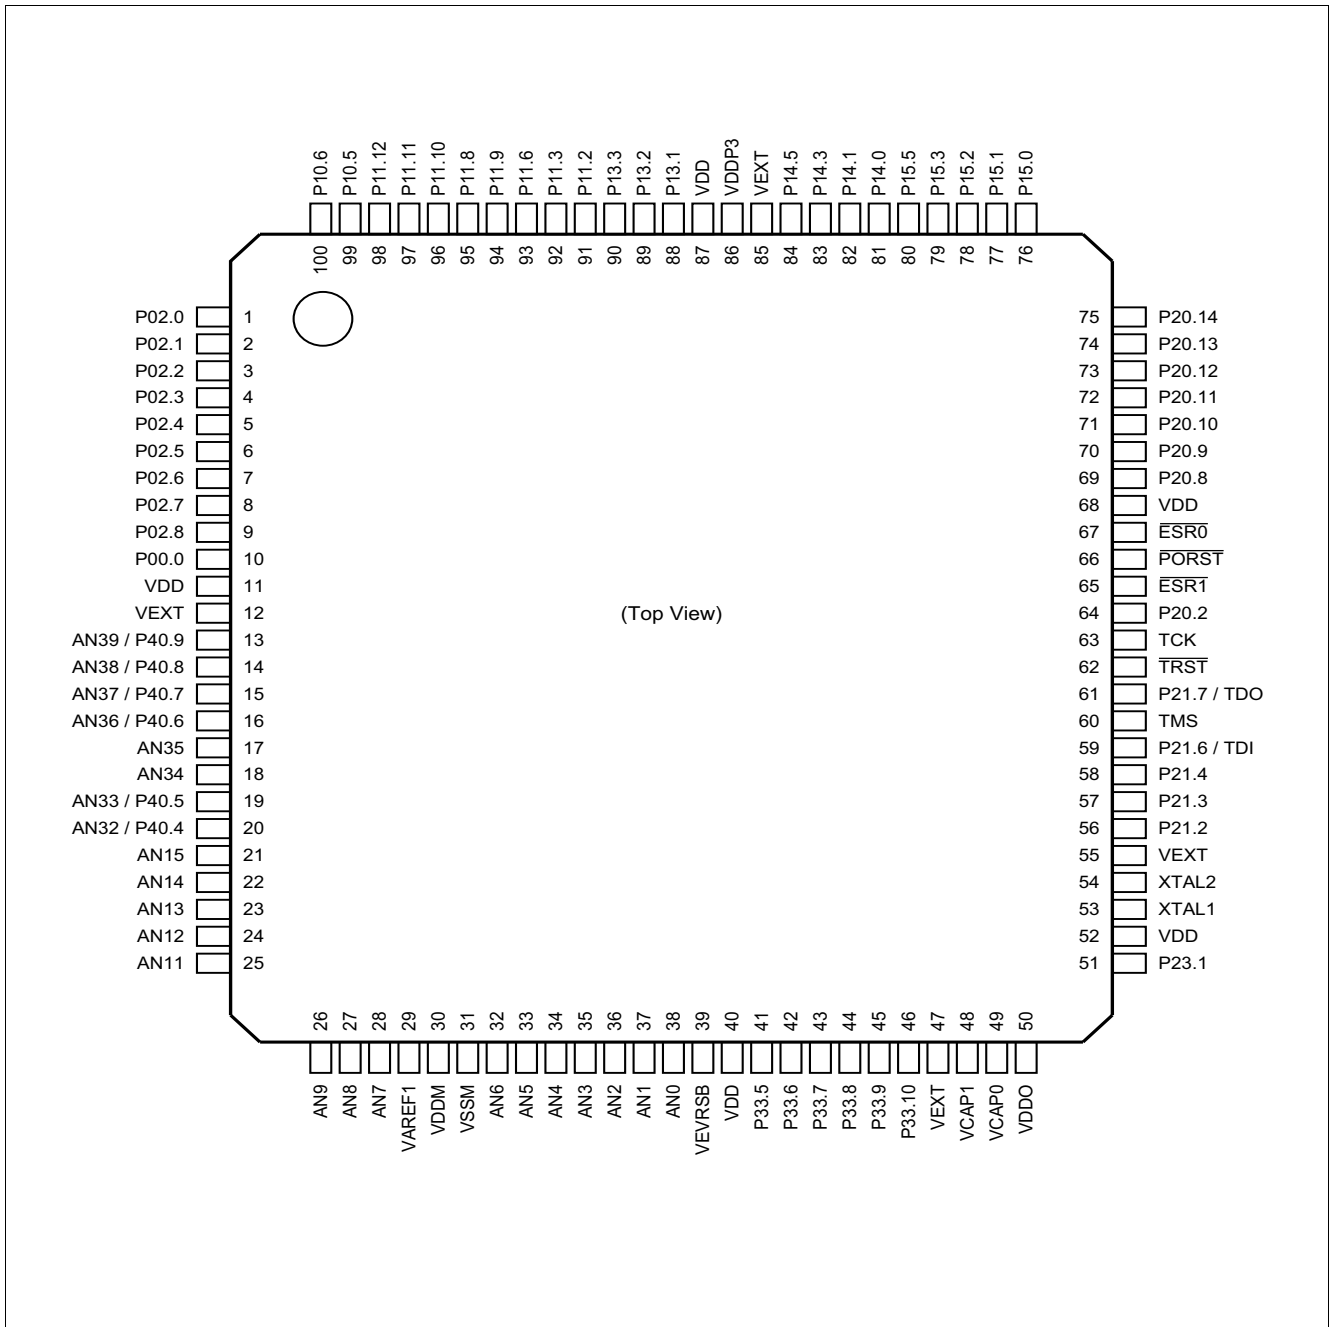

Figure 2-4 TC33x/TC32x Logic Symbol for the package variant TQFP-100 for feature package L and LP
- TQFP-100 for feature package L and LP (Figure 2-4)